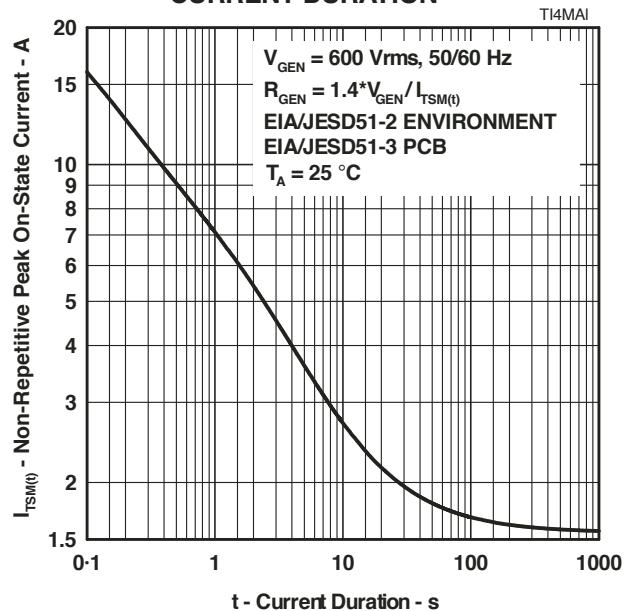

Figure 9.
5. EIA/JESD51-2 environment and EIA/JESD51-3 PCB with standard footprint dimensions connected with 5 A rated printed wiring track widths. See Figure 9 for the current ratings at other durations. Derate current values at $-0.61\text{ \%}/^\circ\text{C}$ for ambient temperatures above 25°C .
The protector can withstand currents applied for times not exceeding those shown in Figure 9. Currents that exceed these times must be terminated or reduced to avoid protector failure. Fuses, PTC (Positive Temperature Coefficient) thermistors and fusible resistors are overcurrent protection devices which can be used to reduce the current flow. Protective fuses may range from a few hundred milliamperes to one ampere. In some cases, it may be necessary to add some extra series resistance to prevent the fuse opening during impulse testing. The current versus time characteristic of the overcurrent protector must be below the line shown in Figure 9. In some cases, there may be a further time limit imposed by the test standard (e.g. UL 1459 wiring simulator failure).